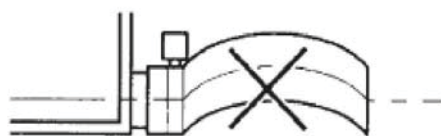

Figure 1-2-11
- ◆ No folding of drain hose inside the indoor unit. (Refer to Figure 1-2-11)